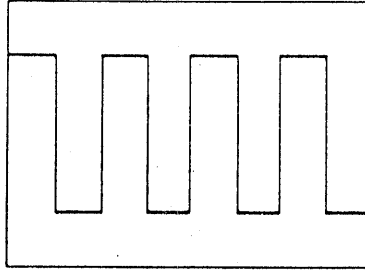

Figure 5-1
- (1) Turn on the power switches of the devices and confirm that the power pilot lamps are on. A trace will be displayed on the oscilloscope screen in about 20 seconds after turning on the power. If no trace is displayed even when about 60 seconds has elapsed, repeat the above setting procedure from the beginning.
- (2) Pull out the INTEN knob of Oscilloscope COS5030-PG and adjust it together with the FOCUS knob so that the displayed trace becomes sharpest.
- (3) Pull out the CH1 POSITION knob of Oscilloscope COS5030-PG and adjust it together with the TRACE ROTATION control (semi-fixed potentiometer) so that the displayed trace conforms with the horizontal center line of the graticule.
- (4) Connect the 960BNC Probe (supplied) to the CH1 input terminal and connect the probe tip to the CALIB terminal. (Set the attenuation ratio of the 960BNC Probe at 10;1.)
- (5) Change the AC-DC-GND switch of Remote Controller RC01-COS to AC, GND-OFF. A waveform as shown in Figure 5-1 will be displayed on the oscilloscope screen.